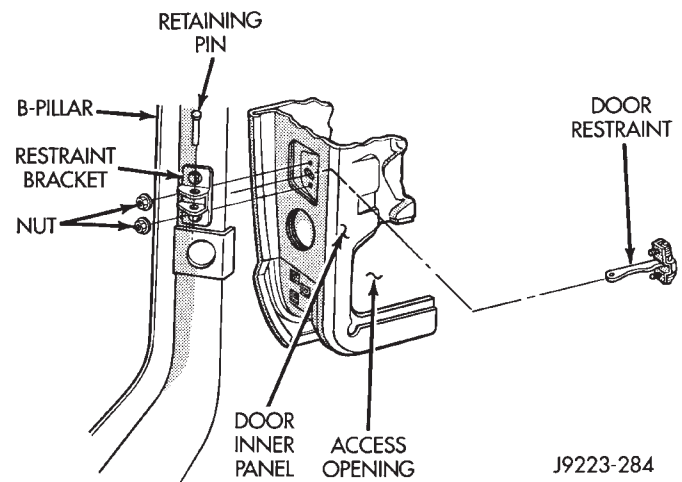

Fig. 49 Door Restraint (Check)
- (1) Remove the door trim panel.
- (2) Remove the door restraint (check) retaining pin from the bracket with a punch.
- (3) Remove the nuts and remove the restraint via the access opening in the door inner panel (Fig. 49).